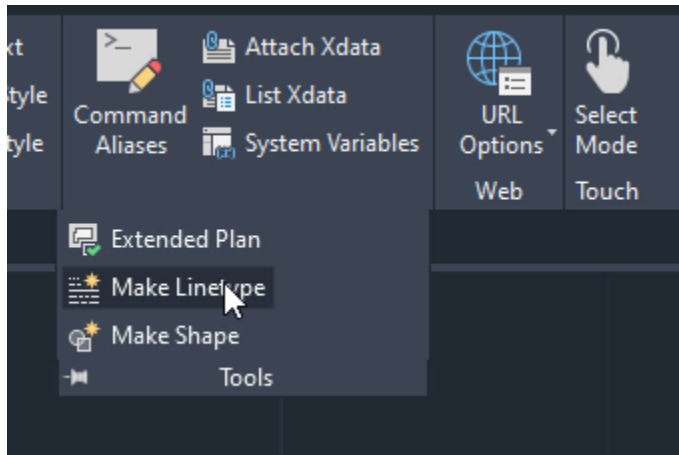

Figure 22: Choosing the Make Linetype command from the Express Ribbon tab.
2. Choose the Make Linetype command from the expanded Tools panel of the Express Ribbon tab (see Figure 22).